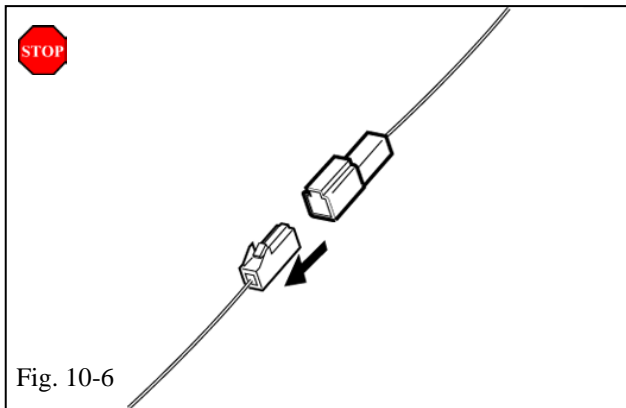

Fig. 10-6
- Disconnect the V4 Harness's White 1P Connectors in the Passenger's Side Cowl Area. (Fig. 10-6)